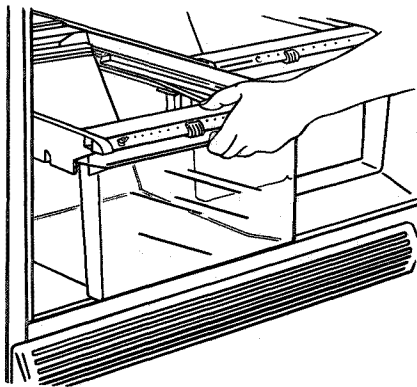

Figure 35
- i. Remove crisper system on left\* side by grasping and lifting up top front with one hand while reaching underneath drawer and pushing up with other hand. See Figure 35.